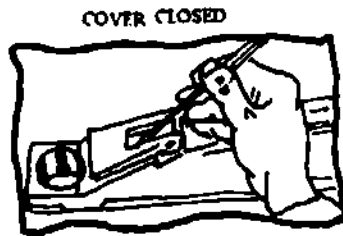

Fig 1-80. Close cover and place electrolyte on the measuring window.
- (c) Place a few drops on the measuring window (fig 1-80).